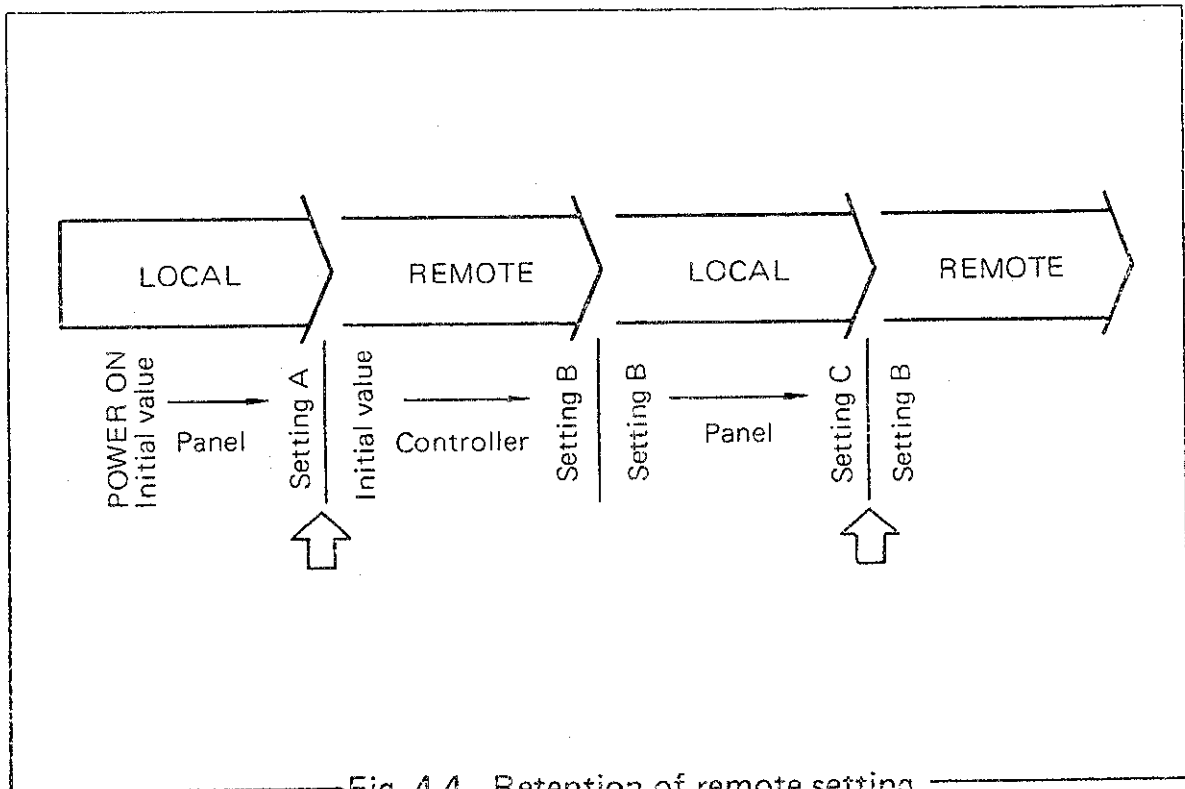

Fig. 4-4 Retention of remote setting
- (1) When the counter is set to Remote, the **RMT** lamp to the left of the front panel readout goes on.
- (2) While the **RMT** lamp is on, the following switches are disabled:
- (3) The Remote settings (such as function) are retained when the state of the counter is changed from Remote to Local by the controller unless the **POWER** switch of the counter is set to **OFF**. When the counter is returned to the Remote state after altering the state to Local and changing the settings by operating the panel switches, the previous Remote settings are retained. (It appears that the settings such as function are also changed by simply changing the state from Local to Remote.) (See the positions indicated by the arrows in Figure 4-4.)